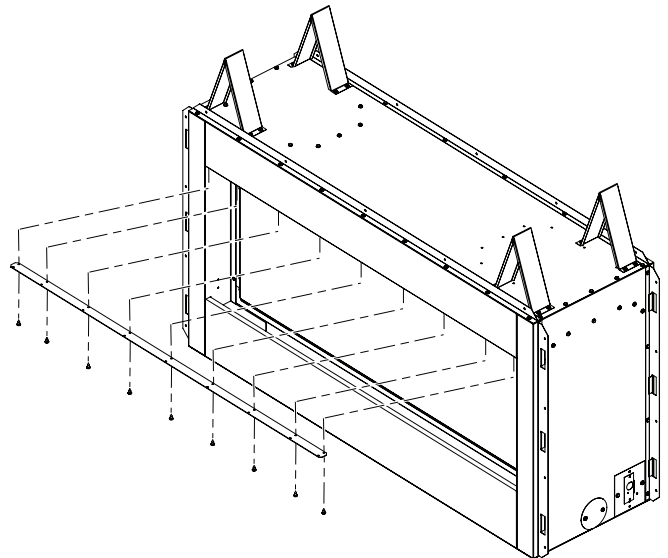

Figure 17 - Removing for See-Thru Applications
2. Unscrew mount bracket from top face as shown in Figure 17. Discard mounting bracket and replace screws.